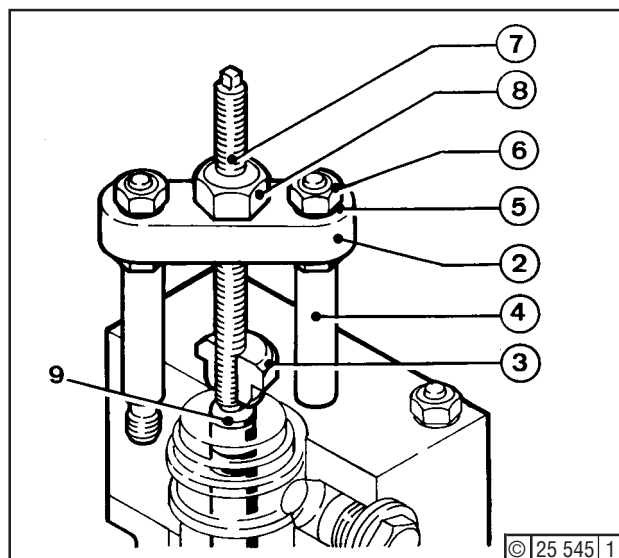

Fig. 3
Screw in pins (4) - Fig. 3 -, place on clamping plate (2) and tighten up with hex. nuts (6) fitted with washers (5). Now complete special tool with threaded piece (3), set screw (7) and nut (8). Turn set screw into plunger (9) and pull element out of injection pump by turning the nut. Take off clamping plate (2). Clean all components in diesel fuel. Renew O-seal (346) - Fig. 1.